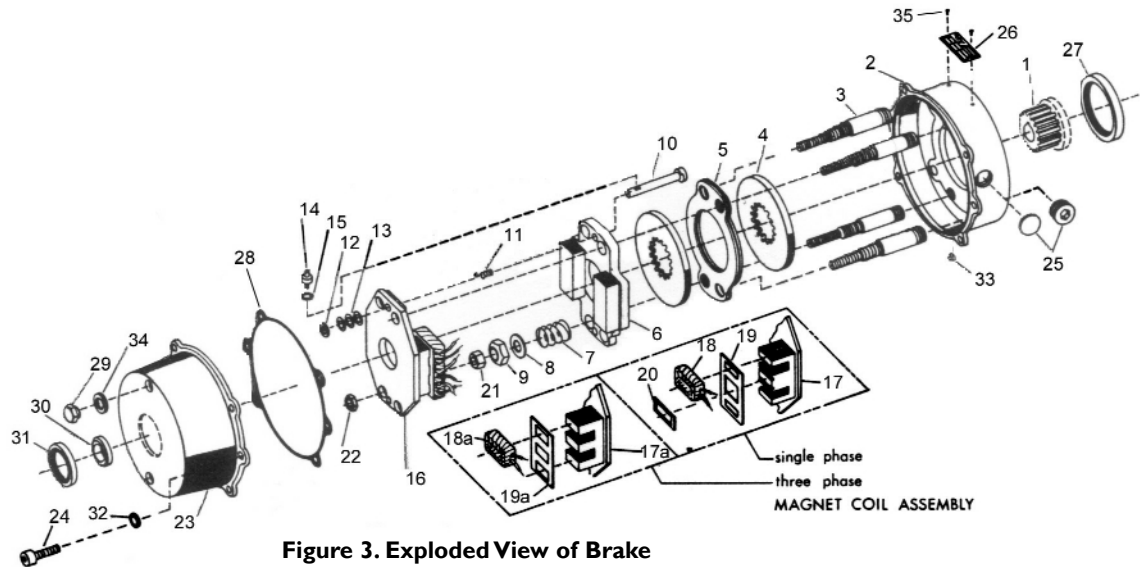

Figure 3. Exploded View of Brake
(See Figures 3 & 5, Tables 1 & 2)
(See Figure 3)
(See Figures 3 & 5)
(See Figures 3 & 5, Table 2)
When assembling a standard manual release mechanism (Figure 3), add only enough shim washers (13) to obtain proper release action. Too many shim washers will prevent automatic reset when electrical power is applied. Too few washers will prevent the motor shaft from turning freely. Replace stop screws (14). Wind each torsion spring (11) approximately 1/4 turn and hook spring loop over pin.
(See Figures 3 & 4)